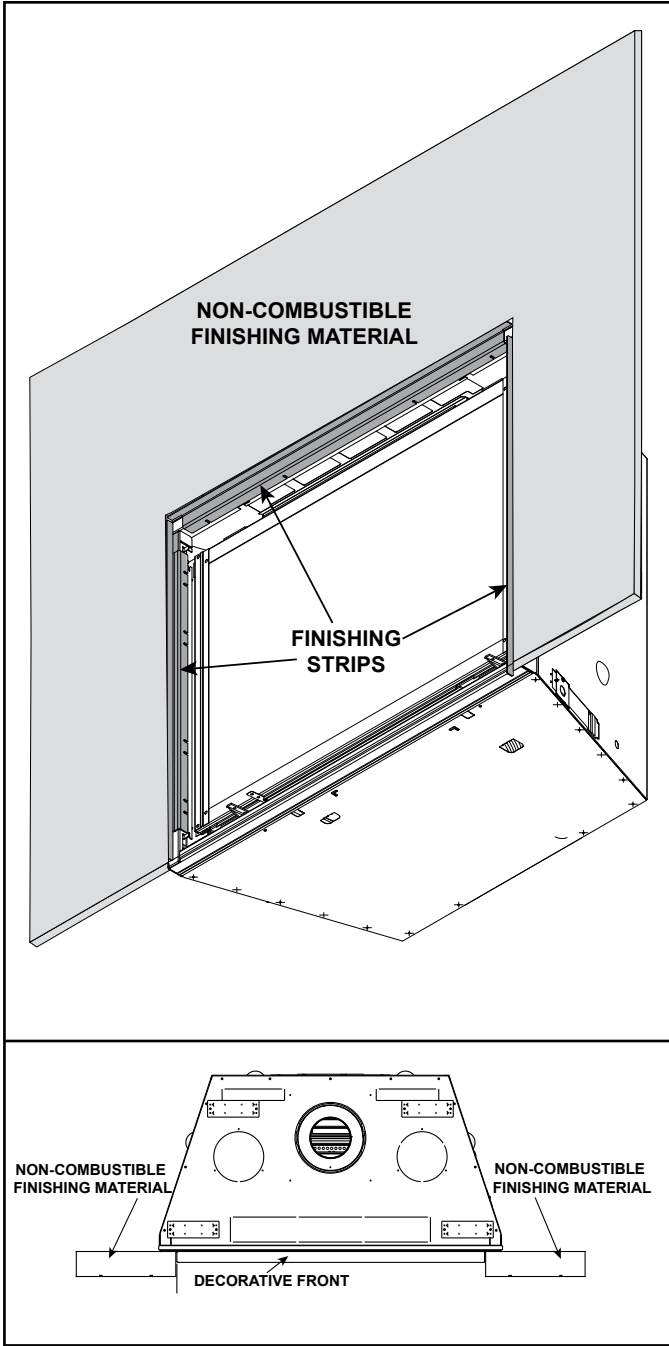

Figure 10.16 Non-Combustible Finishing Material Thickness Greater Than One Inch - Finishing Strips Required
- A. Finish material 1-6 inch thick: Use this method with overlap fronts installed as inside fit. See Figure 10.16.